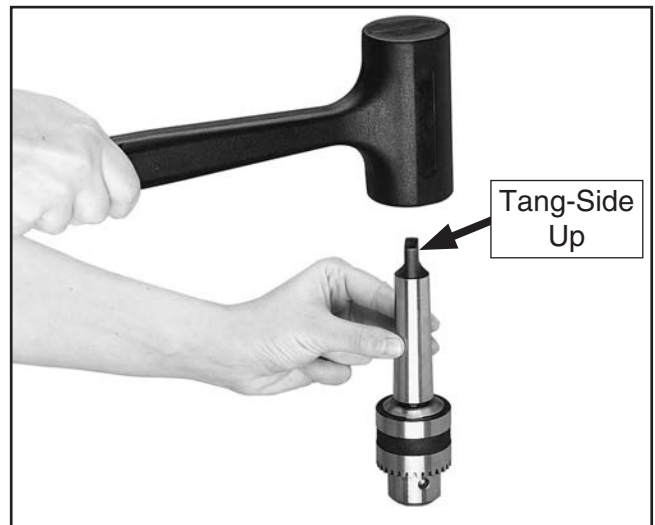

Figure 15. Seating arbor into chuck.
3. Place the drill chuck face down on a workbench. The arbor has a short taper and a long taper. Place the short taper into the socket in the back of the drill chuck and tap it with a rubber or wooden mallet, as shown in **Figure 15**. If the chuck fails to remain secure on the arbor, repeat **Steps 1 & 2**.
4. Slide the arbor into the spindle socket while slowly rotating the drill chuck. The socket has a rectangular pocket where the tang (or flat portion of the arbor shown in **Figure 15**) fits into.